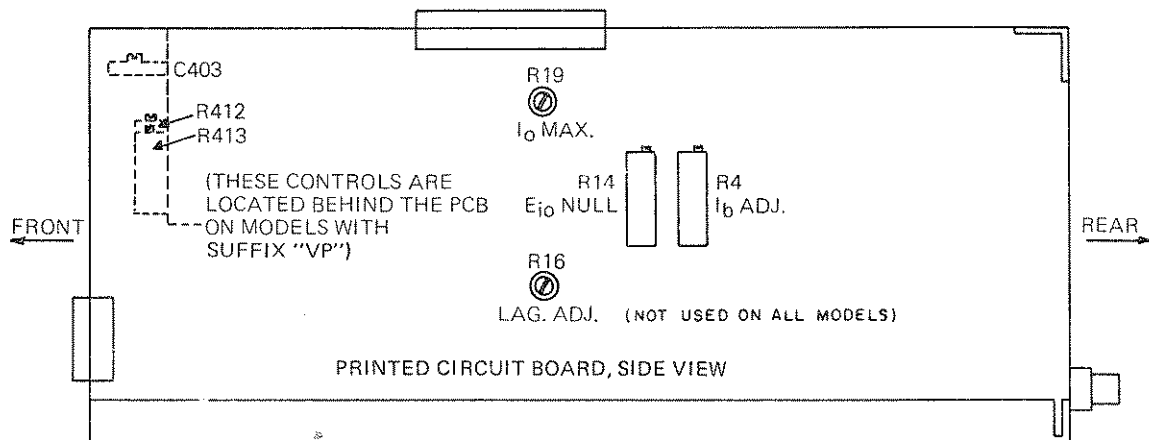

FIG. 2-1 LOCATION OF INTERNAL ADJUSTMENTS
- c) INTERNAL ADJUSTMENTS AND CALIBRATIONS: Refer to FIG. 2-1 and TABLE 2-1.
- (Models suffixed, "–VP" only). Check the "crowbar" action of the overvoltage protector by first adjusting the VOLTAGE CONTROL to about 1/4 of its range. Locate the "OVERVOLTAGE LEVEL" adjustments (R412,413 refer to FIG. 2-1) and turn the "Coarse" adjustment (R413) slowly counterclockwise until the output voltage goes suddenly to zero as observed on the panel meter. Turn AC POWER SWITCH* "off." Turn the "OVERVOLTAGE LEVEL" control (R413) fully clockwise again.